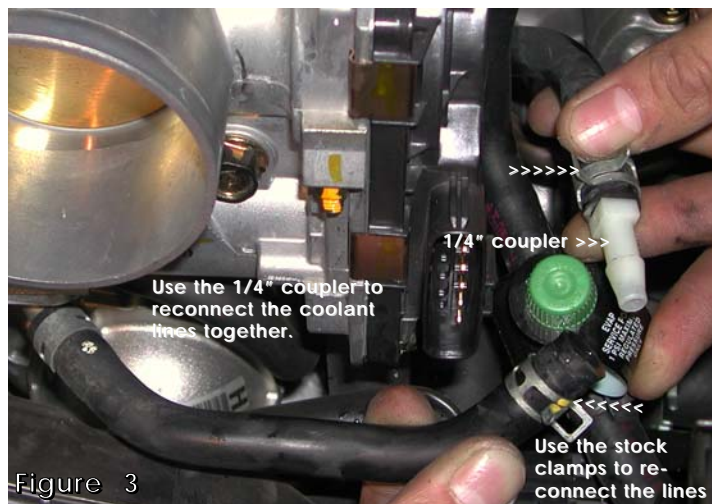

Figure 3
3. Take the 1/4" coupler and press it into one of the two bypass water coolant lines. Press the second coolant line over the 1/4" coupler and use the stock clamps to secure both coolant lines. (See fig. 3)